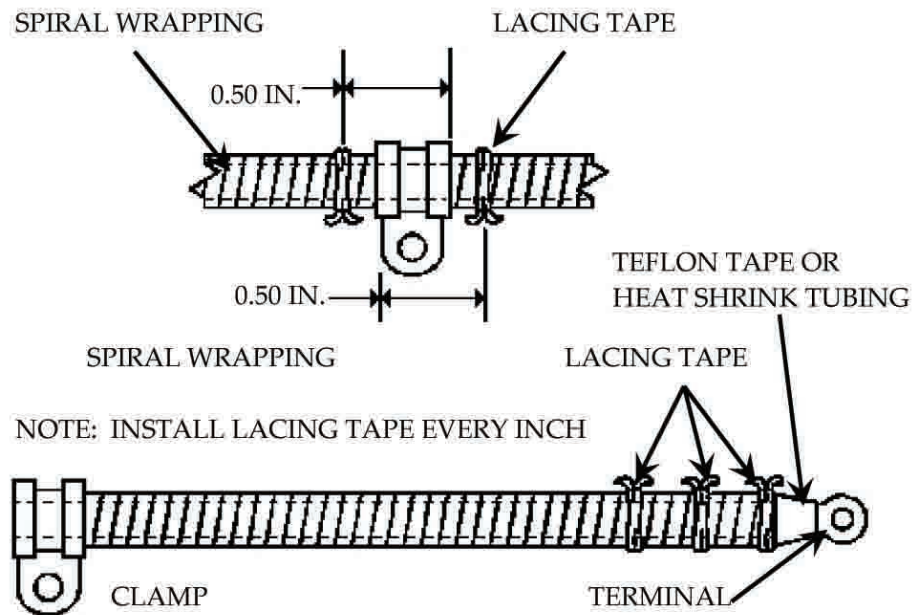

Figure 14. Spiral Wrapping Installation
a. Installation of Spiral Chafe Wrap (Figure 14).